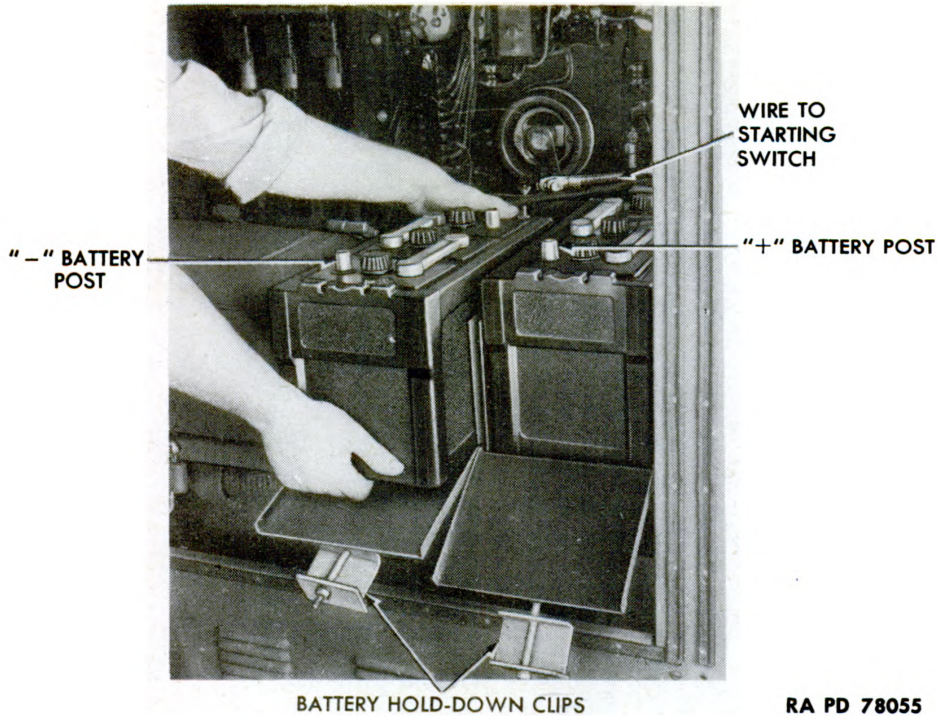

Figure 49 — Removing Batteries
(2) The batteries and their compartments must be kept clean and dry, and the vent plugs tight, although the breather holes in the latter must be kept open.
(3) Cables and terminals should be kept tight or the proper connections cannot be maintained. Scrape clean with a coarse wire brush, and then wash surface with hot water and soap. After connecting cables to battery terminals, coat terminals with **GREASE**, general purpose (seasonal grade).
(4) For care of batteries in hot and cold climates, see section VI.
c. Removal (fig. 49).
(1) Disconnect cable lugs from battery terminals, holding square head of bolt with pliers, and unscrewing nut with open-end wrench.
(2) Loosen the nuts securing battery clips against battery and lift clips from battery. When lifting front clips, the hinged section of each battery box will swing down out of position, permitting easy removal of the batteries.
(3) Lift batteries from their boxes.
d. Installation (fig. 49).
(1) Thoroughly clean battery boxes before installing batteries.
(2) Place batteries in their boxes with negative (-) post of front